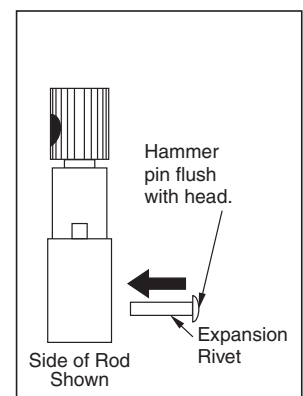

Figure 5
5. Secure with expansion rivet from front of rod. (Figure 5)